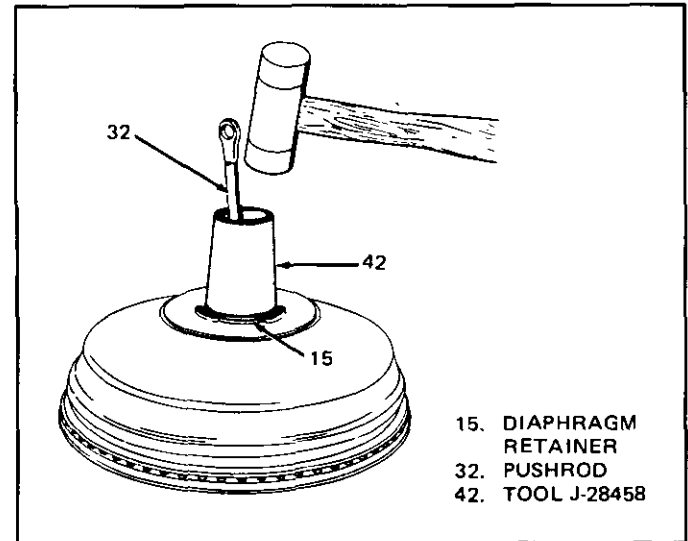

Figure 11 Seating Diaphragm Retainer
7. Diaphragm retainer (15) and seat as shown in Figure 11 using J-28458 Installer
8. Silencer (14), reaction retainer (13) and piston rod (12)